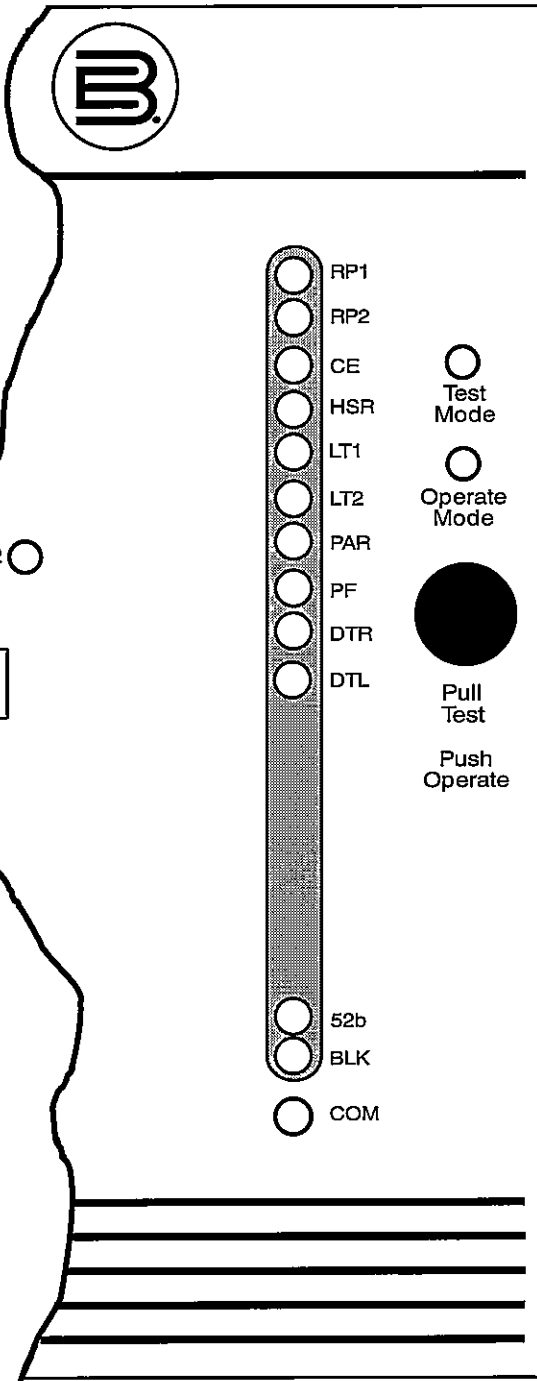

Figure 1 - Front Panel Test Points
- Switch to disconnect control inputs and permit injection of test signals through test points on front panel (figure 1).